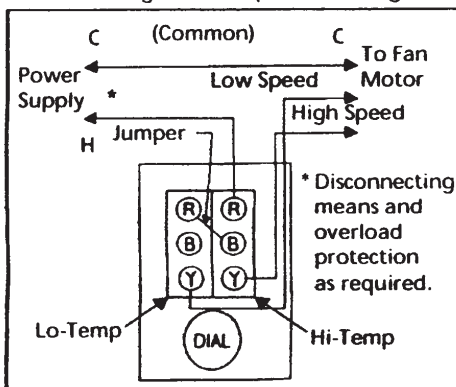
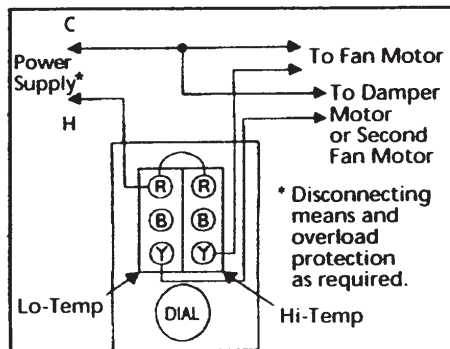

Figure 6 - Model 2E207 in Typical Two-Speed Ventilating Fan Control Circuit
Figure 7 - Model 2E207 in Control of Single Speed Ventilating Fan and Volume-Increase Damper Motor
Figure 6 shows typical wiring for the control of a two speed ventilating fan. When control temperature element reaches the dial settings of Model 2E207, the low temperature switch starts the fan on low speed. If the space temperature continues to rise, the high temperature switch supplies power to the high speed motor winding while disconnecting the low speed winding.
Figure 7 shows Model 2E207 in a typical hook-up for a two-volume fan application. The damper motor will be energized when the temperature reaches the dial setting. If the temperature continues to rise, the fan motor will be energized by the high temperature switch.
2. Model 2E207 — If hook-up is similar to Figure 6, fan should start at approximately space temperature and should change to high speed as the dial is turned counterclockwise to a lower temperature setting. If wiring is similar to Figure 7, the damper should open as the dial is turned counterclockwise (lower temperature setting). The devices should act in reverse sequence when the dial is turned clockwise.